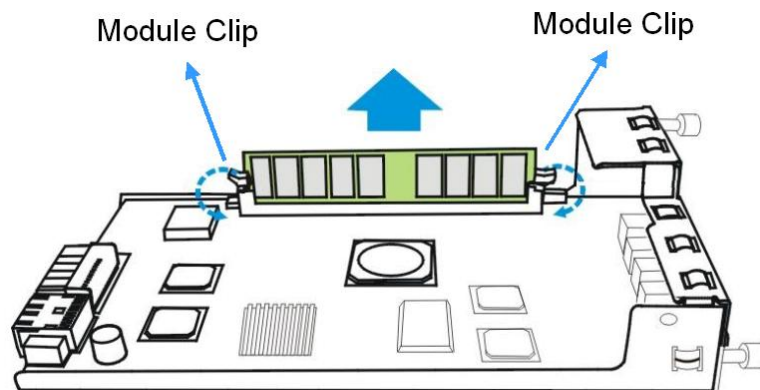

Figure 5-2: Push Back the Module Clips on the Sides of the DIMM Socket
Step 2. **Remove the previously installed DIMM module from the DIMM socket.** To do this, push the white module clips on the sides of the DIMM module down together. By doing this, the previously installed modules will be ejected from the DIMM socket. (See Figure 5-2)
Step 3. **Gently retrieve the DIMM module out of the DIMM socket.** (See Figure 5-2)